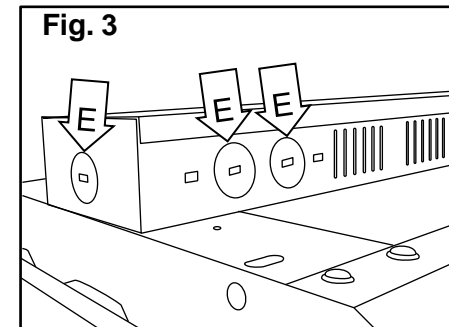

Fig. 3
4. If the fixture will be connected to a dimmer, punch out one of the **knockouts (E)** located around the back portion of the fixture and pull the **dimming wires** out through that **knockout (E)**. [Fig. 3]